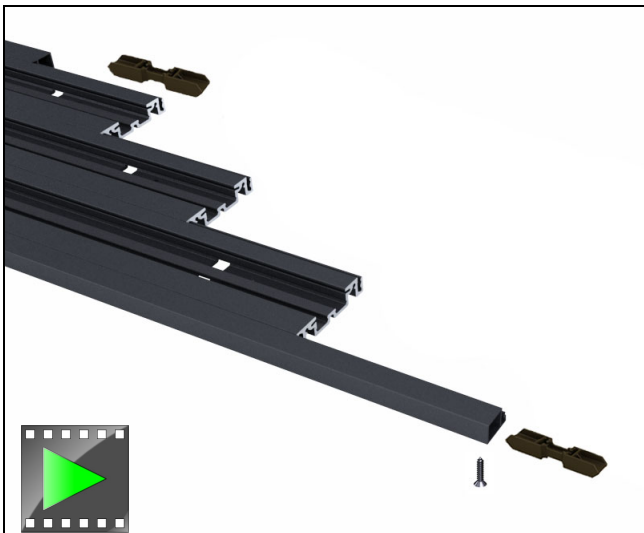

Figure 1
2. Insert sill liner splice keys into one side of each splice. Align holes of key and sill liner. Fasten one #8 x 5/8" flat head screw into sill liner splice keys. Insert one screw into each splice key. Do not tighten screws completely. See figure 1.